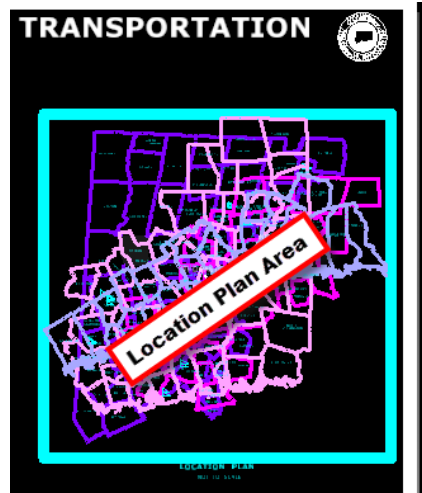

Figure 88 - Location Plan
6. In the location plan area (Figure 88), **turn off** the *district maps* and **reference** in the TRU map copied into your project directory – *Raster\_References\_Files*, **move**, **scale** and **clip** to show the location of your project area. **Annotate** as needed. Also see Section 5.1.2. – Creating a Location Plan.